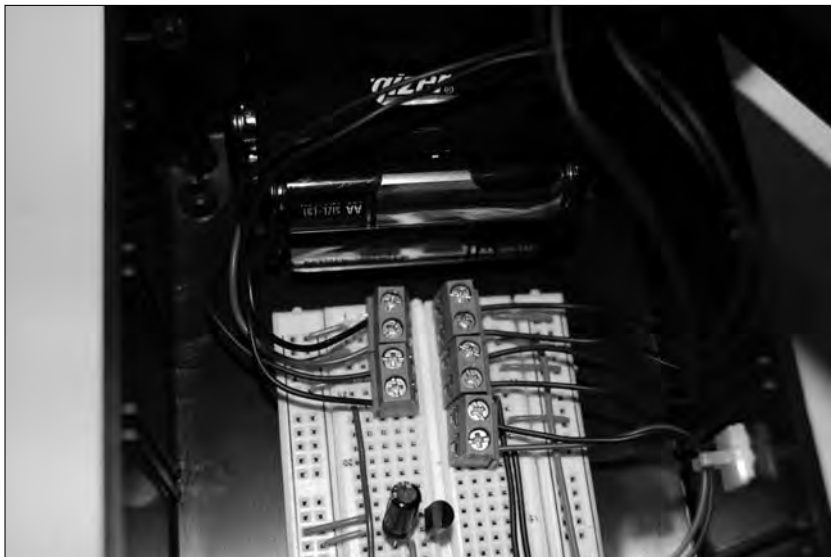

Figure 11-21:
16. Place batteries in the battery holder, connect the snap, and secure the holder in the box with Velcro, as shown in Figure 11-21.